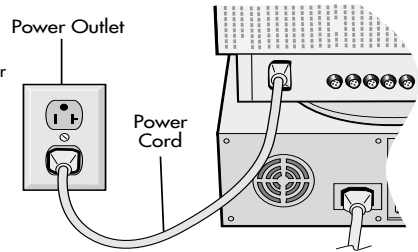

Figure D.1
4. Connect one end of the power cord to the MultiSync® FP Series monitor and the other end to the power outlet (**Figure D.1**).